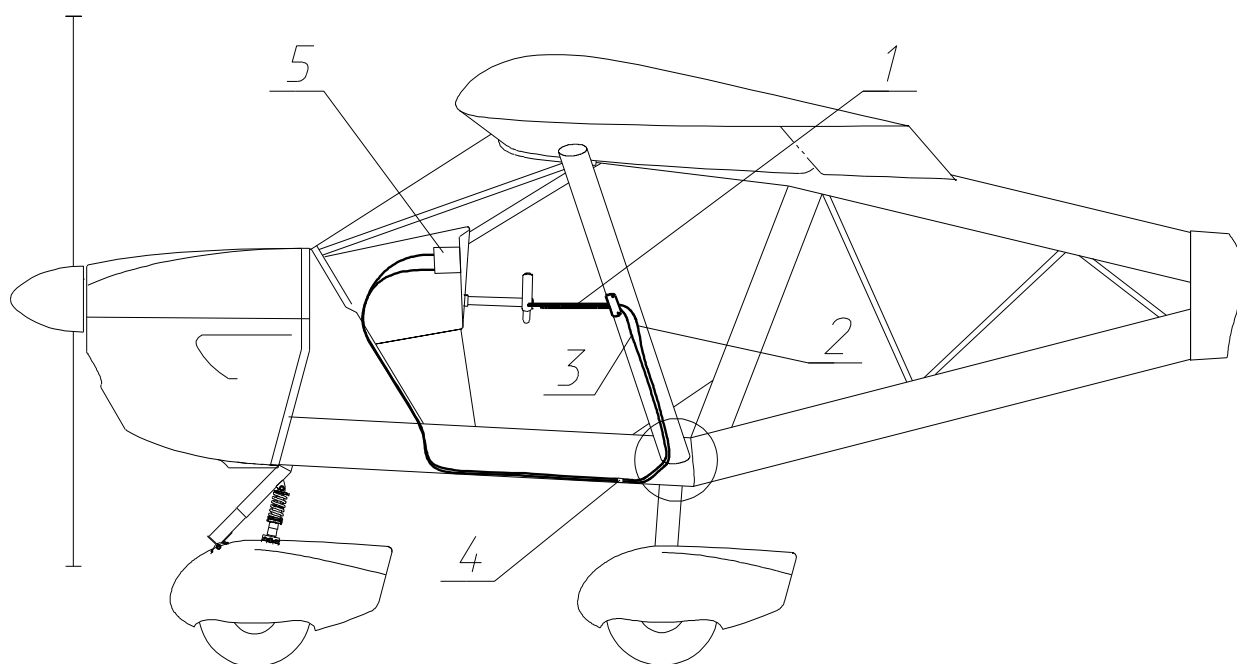

Fig. 10 Full and static pressure system
The full and static pressure system (see Fig. 10) supplies the full (dynamic) and static pressure of the outside air to the instruments measuring the flight parameters: airspeed, rate of climb and altitude. The system consists of the full and static pressure probe (1) and full (2) and static (3) pressure lines connecting the probe to the instruments. Full and static pressure lines have joints (4) for disconnecting the lines when the left wing is removed during aircraft disassembly.